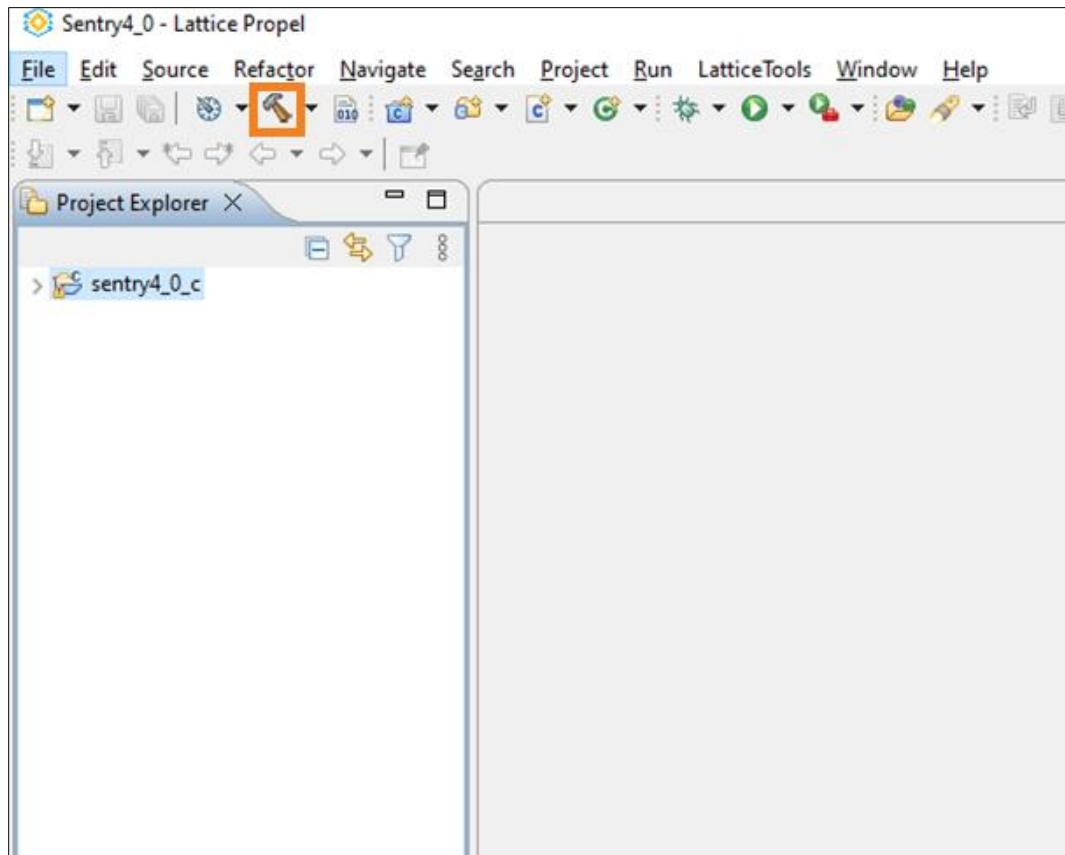

Figure 4.19. Build the Firmware Project
7. Select the firmware project from the **Project Explorer** view and click the Build icon to build it (Figure 4.19).
10. Select the firmware project in the **Project Explorer** view and click the Build icon to build it (Figure 4.19).